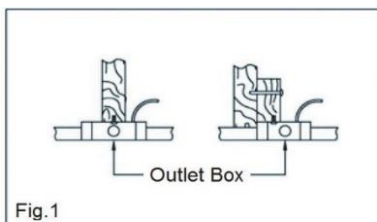

Fig.1
3. Figure 1, 2 and 3 are examples of different ways to mount the outlet box in different situations.